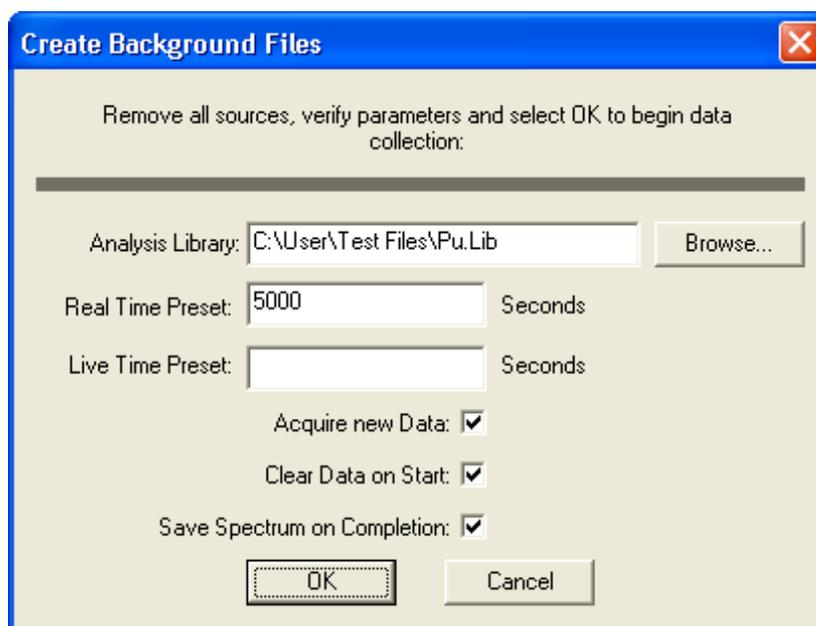

Figure 112. Creating a .PBC File from Live Spectral Data.
- Select **Create PBC...** to open the dialog shown in Fig. 112.